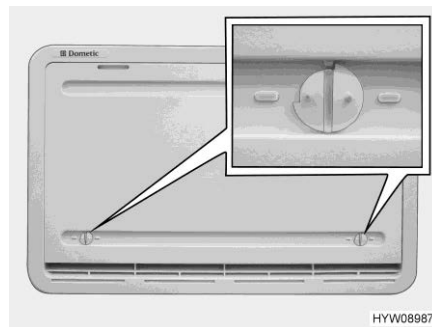

Fig. 185 Winter cover
Winter cover If the refrigerator is to be operated at low external temperatures, the manufacturer recommends the use of a winter cover (Fig. 185) for the refrigerator ventilation grills.
- Open both locks (Fig. 185) (groove in horizontal position).